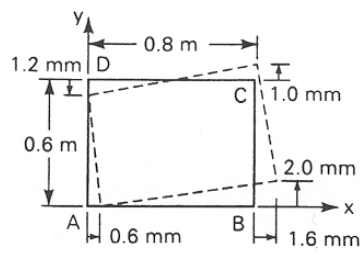

Figure 4: Problem 6.
6. A 0.8-m by 0.6-m rectangle ABCD is drawn on a thin plate prior to loading. Subsequent to loading, the deformed geometry is shown by the dashed lines in Fig. 4. Determine the components of plane strain at point A.